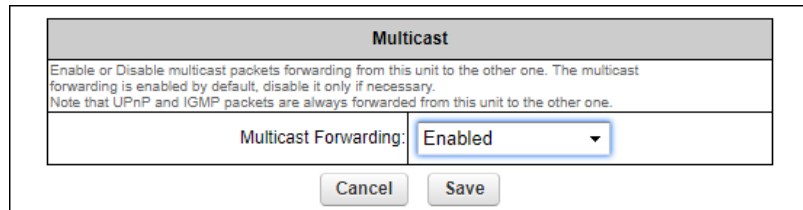

Figure 39. Multicast dialog (Bridge mode)
2. Click the **-multicast** link under **ADVANCED SETTINGS** in the left-hand settings menu (Figure 39 \(page 104\)).